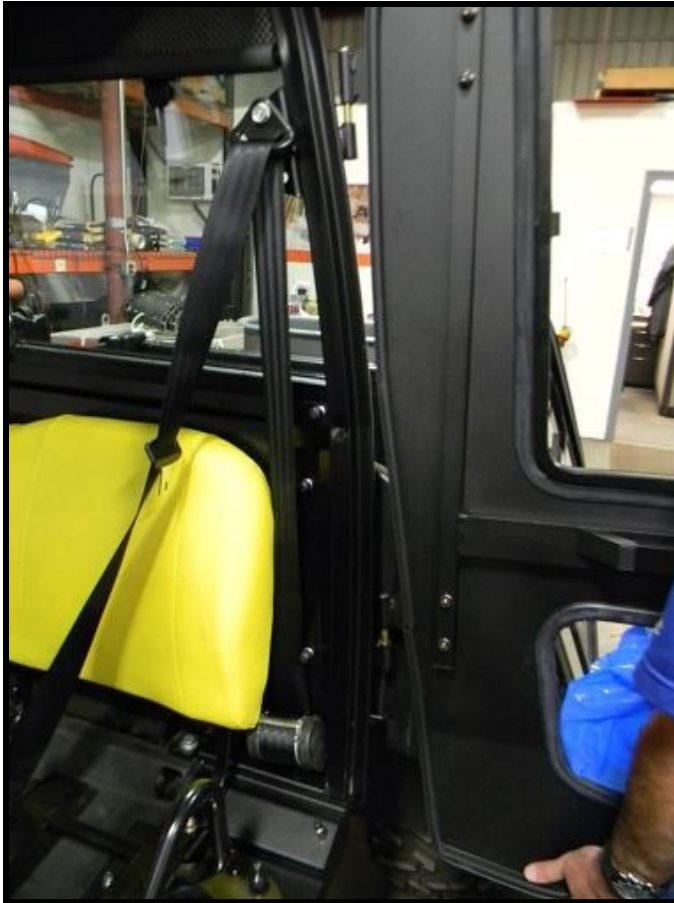

Figure 5:
5. Holding the door perpendicular to the vehicle, lower the door hinge pins into the hinge sleeves on the vehicle. (**Figures 5 and 5a**).